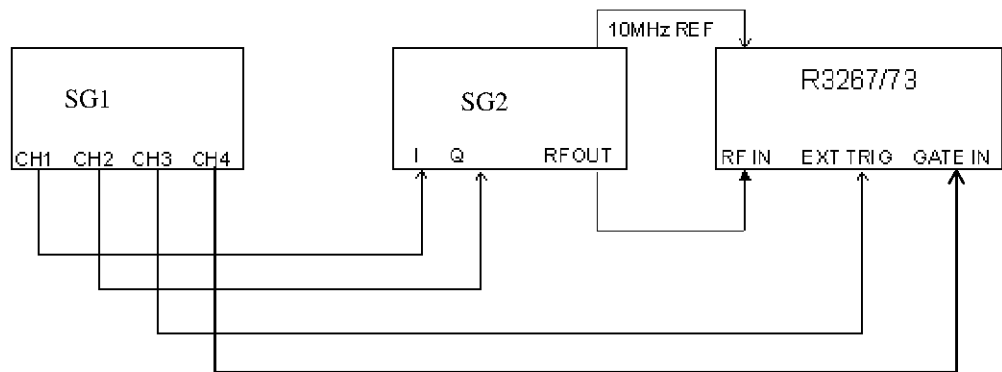

Figure 6-5 Setup of MS Measurement Test
1. Connect equipment as shown in Figure 6-5.